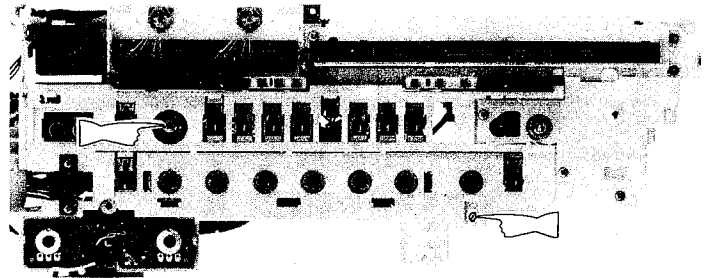

Figure 8-3
4. Remove one nut and one screw at the record/playback P.W.B. See Fig. 8-3.